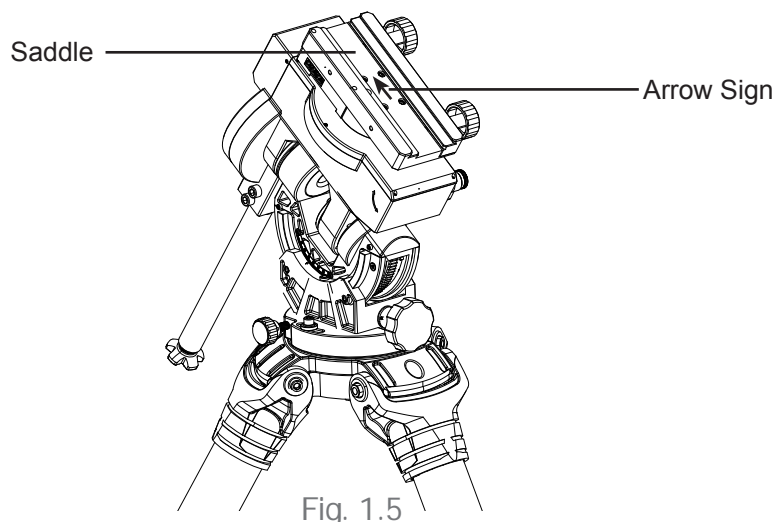

Fig. 1.5
2. Mount the optical tube with the tube pointing in the same direction as the arrow inscribed in the dovetail cradle (Fig. 1.5).